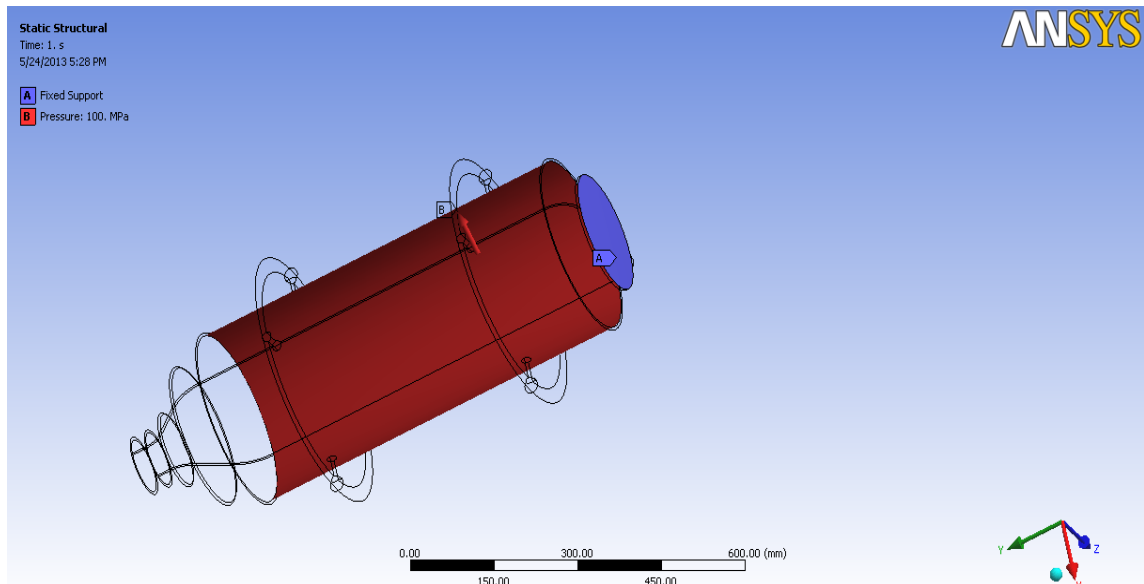

Fig. 4 Loads and supports applied
5. Run CalculiXForWin and select .vol file in the starting window. The units in this problem are "mm" and the model should not be scaled in this special case. Apply pressure and fixed support (Fig. 4), save allinone.inp file and solve the problem.